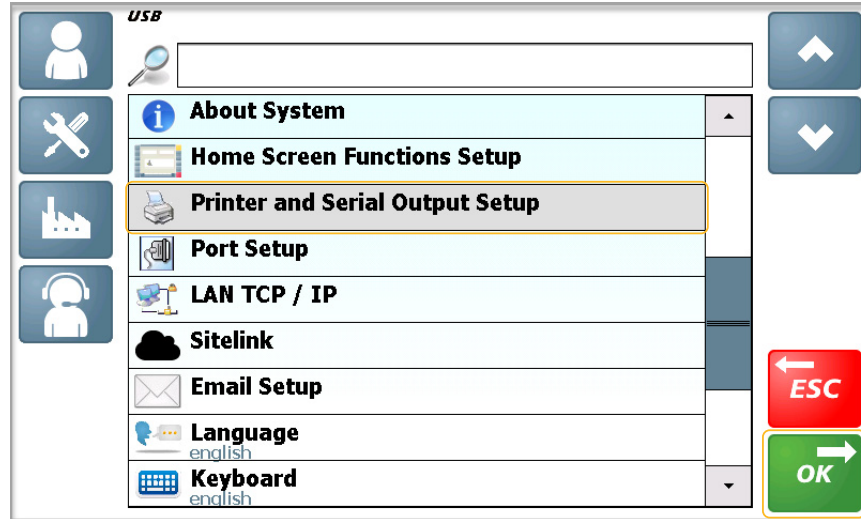

Figure 2-2: Load Weighing Display Technician Level Settings Menu
4. Select **ENT** to open the **Technician Level Settings** menu (Figure 2-2 on page 2-2).
1. Select **Time & Date** on the **Technician Level Settings** menu (Figure 2-2 on page 2-2).